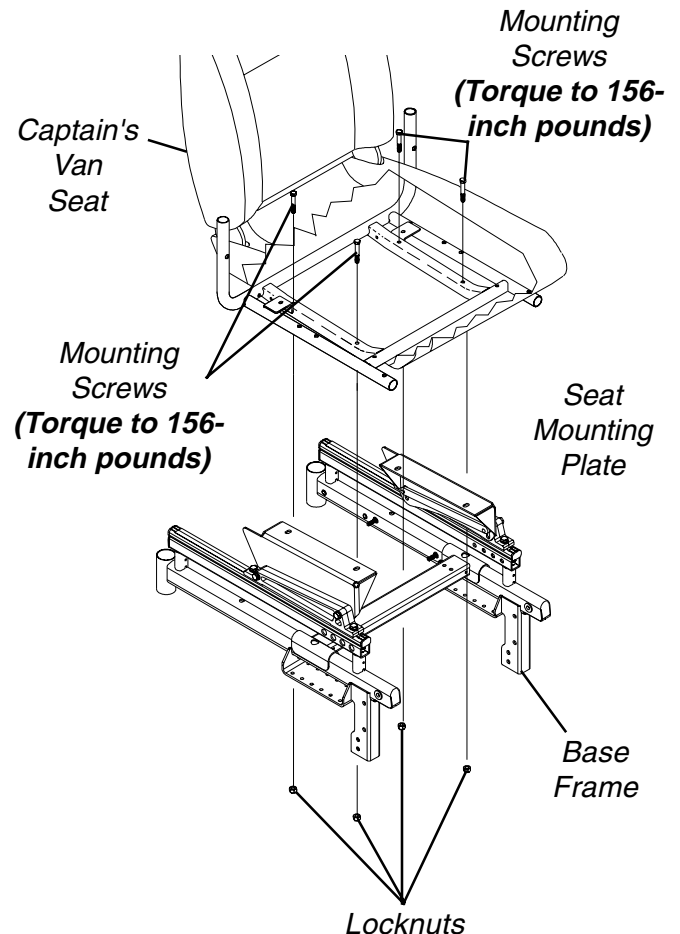

FIGURE 4 - REMOVING/INSTALLING CAPTAIN'S VAN SEAT
REMOVING/INSTALLING CAPTAIN'S VAN SEAT (FIGURE 4)
1. Position the Captain's van seat on the seat mounting plates at the position shown in FIGURE 4.
3. Secure the Captain's van seat to the seat mounting plates with four (4) mounting screws, and locknuts. Torque to 156-inch pounds.